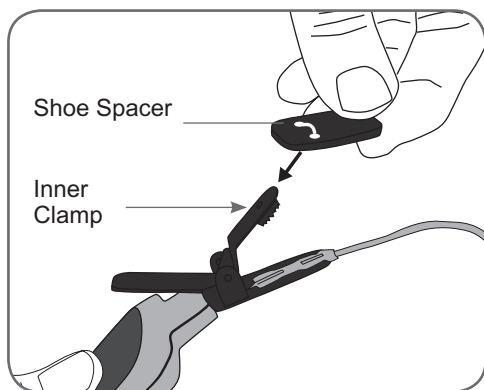

Figure 8-45: Attaching the shoe spacer.
- Slide the shoe spacer over the inner clamp See Figure 8-45.